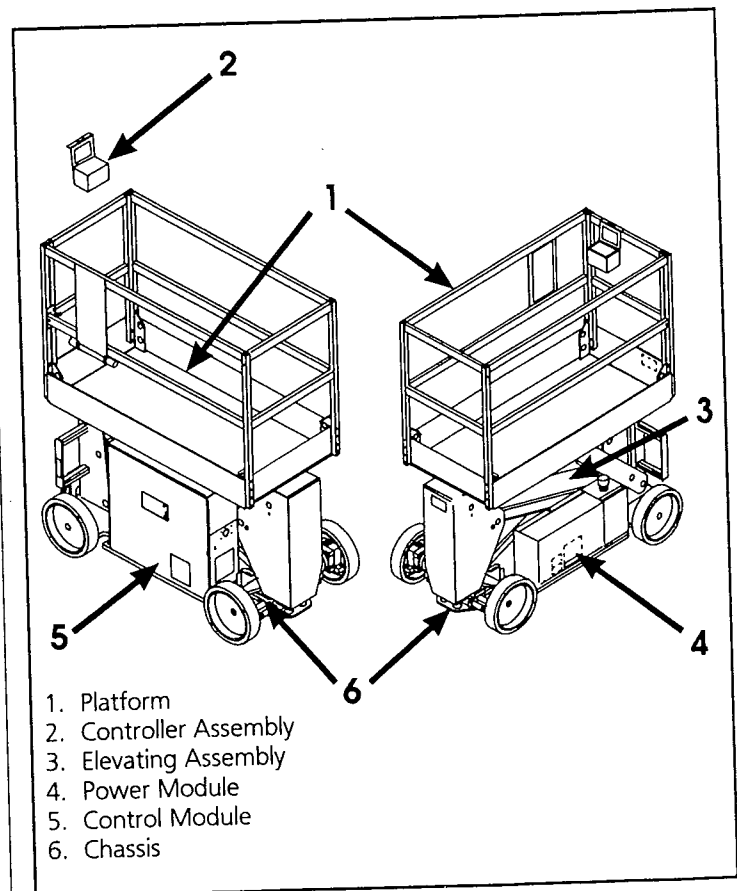

Figure 1-1: SL-14 Work Platform
1.1 General Description (Figure 1-1)